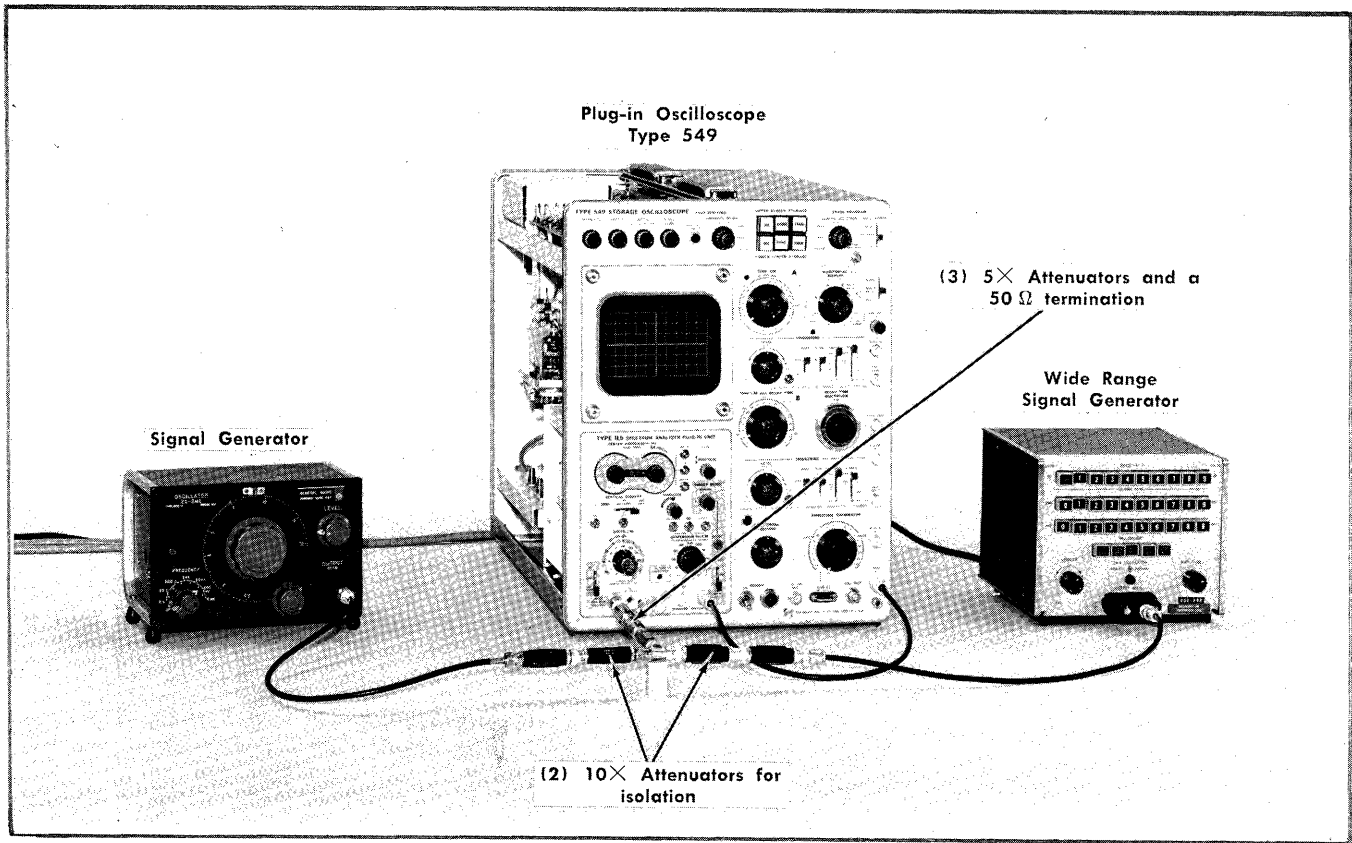

Fig. 6-22. Equipment setup to check intermodulation distortion.
- a. Equipment setup is shown in Fig. 6-22.